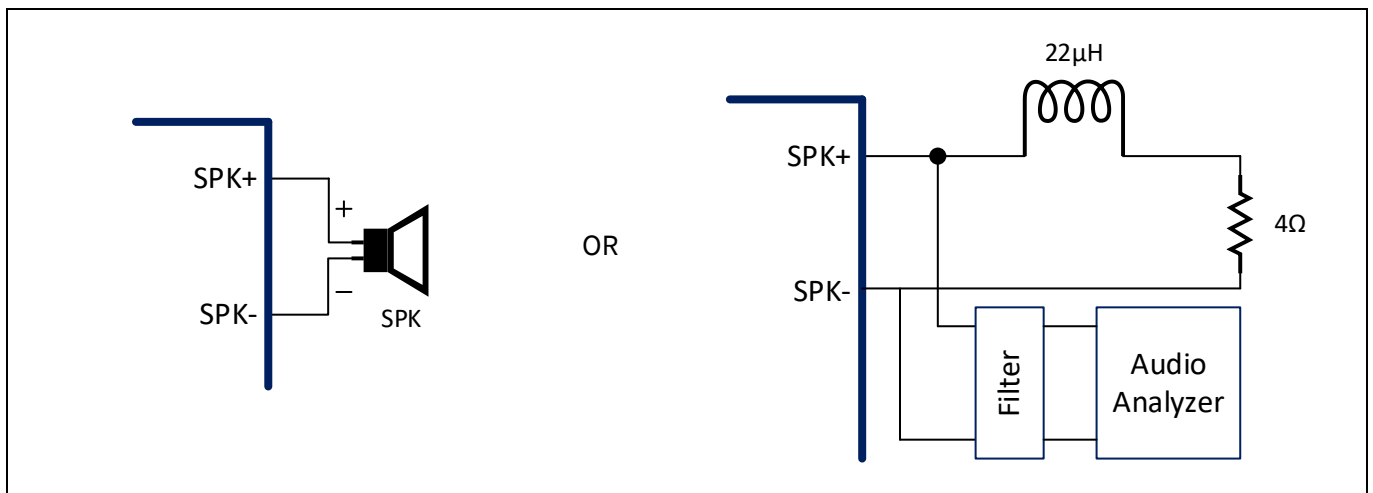

Figure 1 Setup for “speaker test” or “datasheet spec test”
2. Loudspeaker and speaker wires, as shown in **Figure 1**
In addition, for datasheet spec testing, as shown in **Figure 1**: